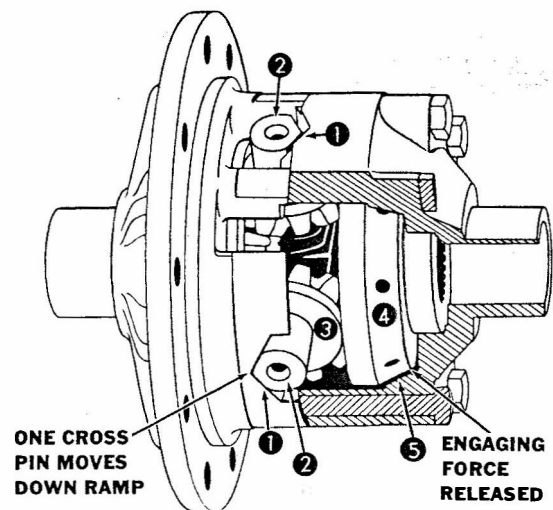

FIG. 4
When turning a corner, this process is in effect partially reversed. The differential gears become a planetary gear set, with the gear on the inside of the curve becoming the fixed gear of the planetary. The outer gear of the planetary overruns as the outside wheel on the curve has a further distance to travel. With the outer gear overrunning and the inner gear fixed, the differential pinions (3, Fig. 4) are caused to rotate, but since they are restricted by the fixed gear, they must first move the cross pins (2) back down the cam surface (1) relieving the thrust load of the clutch ring on its mating surface in the differential case. Thus when turning the corner, the differential, for all practical purposes, is similar to a conventional differential and the wheels are free to rotate at different speeds.